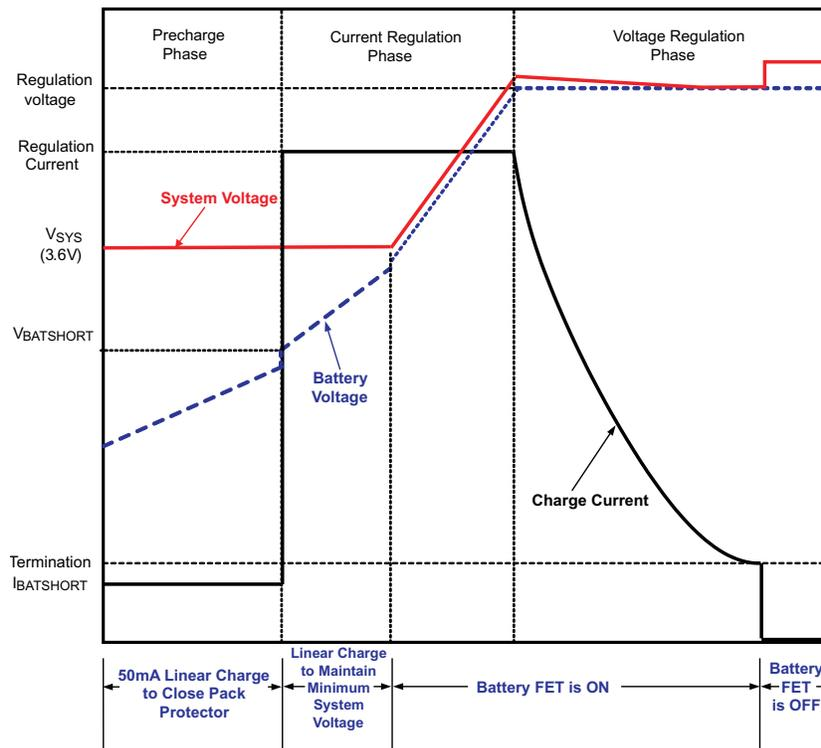

Figure 20. Typical Charging Profile of bq24165/6/7
Charging is done through the internal battery MOSFET. When the battery voltage is above 3.5V, the system output (SYS) is connected to the battery to maximize the charging efficiency. There are 5 loops that influence the charge current; constant current loop (CC), constant voltage loop (CV), thermal regulation loop, minimum system voltage loop (MINSYS) and input voltage dynamic power management loop ( $V_{IN-DPM}$ ). During the charging process, all five loops are enabled and the dominate one takes control. The bq24165/6/7 supports a precision Li-Ion or Li-Polymer charging system for single-cell applications. The minimum system output feature regulates the system voltage to a minimum of  $V_{SYS(REG)}$ , so that startup is enabled even for a missing or deeply discharged battery. Figure 20 shows a typical charge profile including the minimum system output voltage feature.